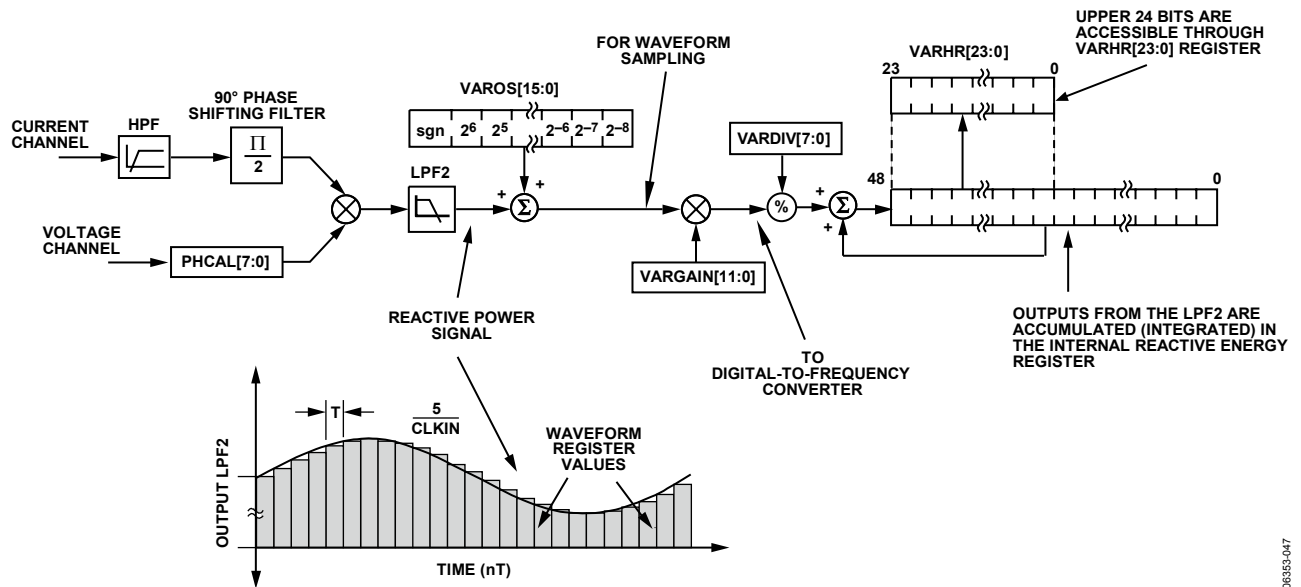

Figure 71. Reactive Energy Calculation
The instantaneous reactive power signal $q(t)$ is generated by multiplying the voltage and current channels. In this case, the phase of the current channel is shifted by 90° . The dc component of the instantaneous reactive power signal is then extracted by a low-pass filter to obtain the reactive power information (see Figure 71).
Figure 71 shows the signal processing chain for the ADE7569/ADE7169 reactive power calculation. As explained in the Reactive Power Calculation for the ADE7569/ADE7169 section, the reactive power is calculated by applying a low-pass filter to the instantaneous reactive power signal. Note that, when reading the waveform samples from the output of LPF2, the gain of the reactive energy can be adjusted by using the multiplier and by writing a twos complement, 12-bit word to the VAR gain register (VARGAIN[11:0]). Equation 25 shows how the gain adjustment is related to the contents of the watt gain register.
The ADE7569/ADE7169 also incorporate a reactive power offset register (VAROS[15:0]). This is a signed, twos complement, 16-bit register that can be used to remove offsets in the reactive power calculation (see Figure 71). An offset can exist in the reactive power calculation due to crosstalk between channels on the PCB or in the IC itself. The offset calibration allows the contents of the reactive power register to be maintained at 0 when no power is being consumed.
The discrete time sample period (T) for the accumulation register in the ADE7569/ADE7169 is $1.22 \mu\text{s}$ ($5/\text{MCLK}$). As well as calculating the energy, this integration removes any sinusoidal components that may be in the active power signal. Figure 71 shows this discrete time integration or accumulation. The reactive power signal in the waveform register is continuously added to the internal reactive energy register.
As shown in Figure 71, the reactive power signal is accumulated in an internal 49-bit signed register. The reactive power signal can be read from the waveform register by setting the WAVMODE register (0x0D) and setting the WFSM bit in the Interrupt Enable 3 SFR (MIRQENH, 0xDB). Like the current and voltage channel waveform sampling modes, the waveform data is available at sample rates of 25.6 kSPS, 12.8 kSPS, 6.4 kSPS, or 3.2 kSPS.